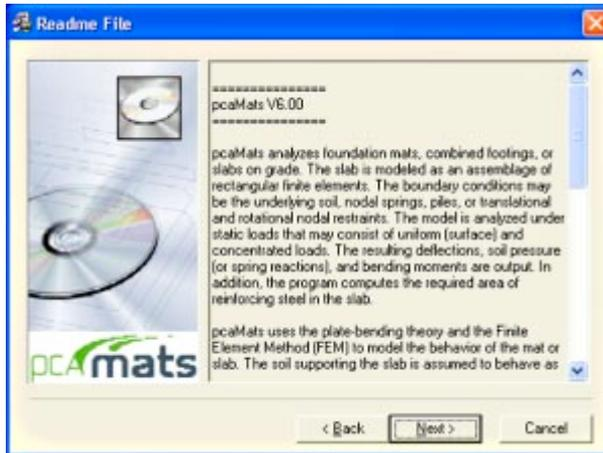

Figure 1-5 — Description of the program
- The next step allows reviewing the description of the program as shown in Figure 1-5. Press the NEXT button to proceed to the next step.